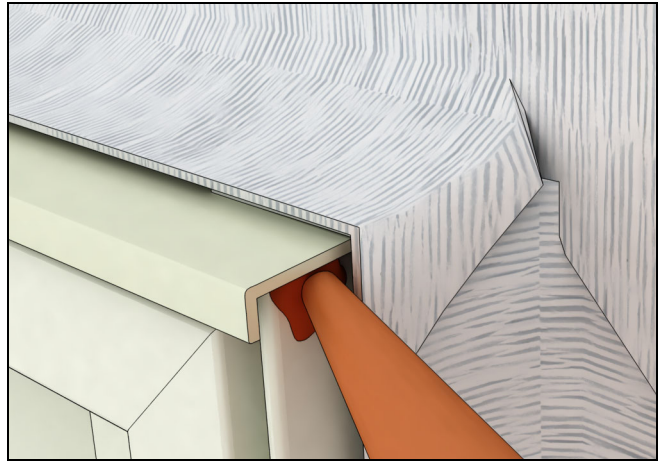

Figure 279
9. Seal the ends of the rigid head flash by injecting sealant at each end. See Figure 279.